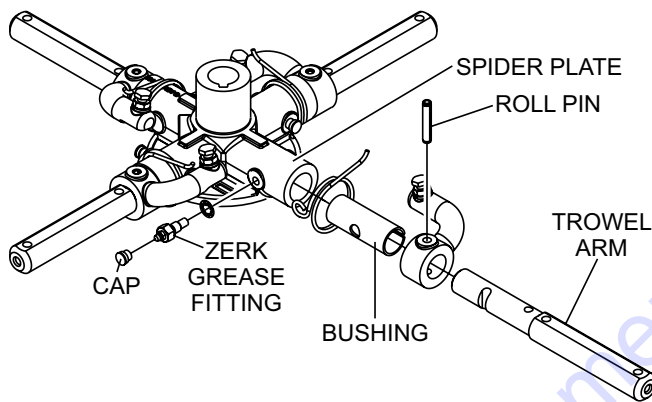

Figure 65. Trowel Arm Removal
1. Each trowel arm is held in place at the spider plate by a hex head bolt (zerk grease fitting) and a roll pin. Remove both the hex head bolt and the roll pin (Figure 65) from the spider plate.
4. Examine the trowel arm bushing insert (Figure 65), clean if necessary. Replace bushing if out of round or worn.